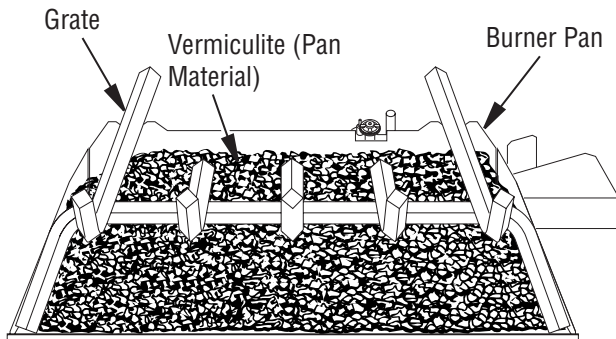

Figure 19 - Fill Entire Burner Pan with Vermiculite
1. Open bag(s) of vermiculite and fill entire burner pan until burner tube is completely covered (see Figure 19).